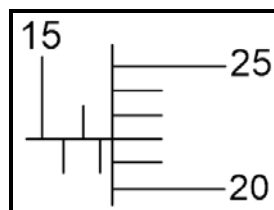

FIGURE 9.2
9.2 FIGURE 9.2 below shows a reading on an outside micrometer. What is the value of the reading?